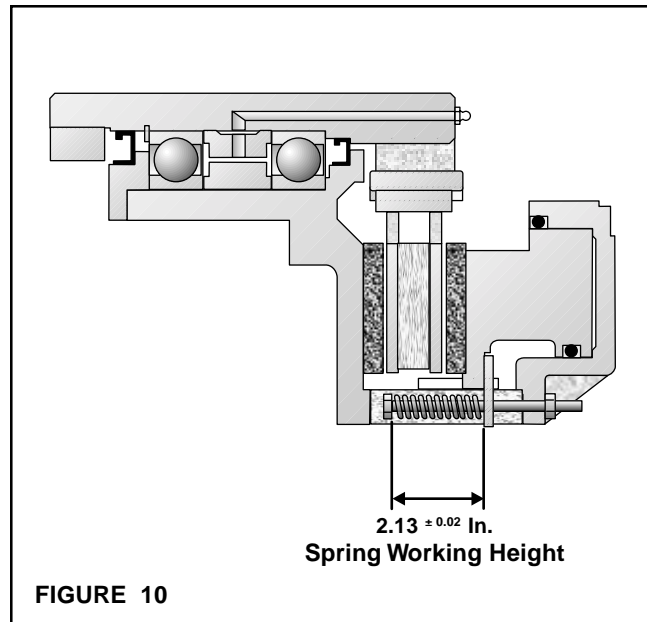

FIGURE 10
23. Tighten the Hex. Head Torque Nuts (Item 19) until a spring working height of 2.13 In. [51.2 mm] is achieved (See Figure 10).